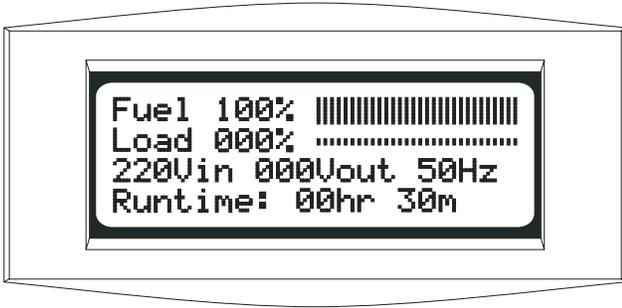

Fig 4-11 Startup Screen
- ❑ 6. Using the PowerView display, read and record the reported input voltage from the startup screen. (“220Vin” in figure 4-11 indicates that the input voltage is 220V.)
- ❑ 8. Switch the maintenance bypass switch to the “on” position. The Power Array will go into the manual bypass mode, and voltage should now be present at the output terminal connections. The bypass LED on the PowerView display will glow and one or more messages may appear on the PowerView display. Ignore these messages by pressing the ESC navigation key on the PowerView display until the startup screen reappears. See figure 4-11. Read and record the output voltage that is indicated on the PowerView. (“000Vout” in figure 4-11 indicates that the output voltage is 000V.)